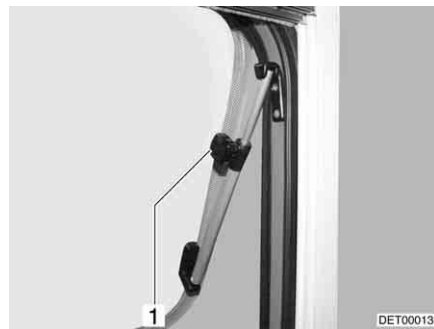

Fig. 75 Hinged window with rotary hinges
- Open the hinged window until the required position has been reached and use knurled knob (Fig. 75,1) to secure in position.
- Turn knurled knob (Fig. 75,1) until the latch is released.